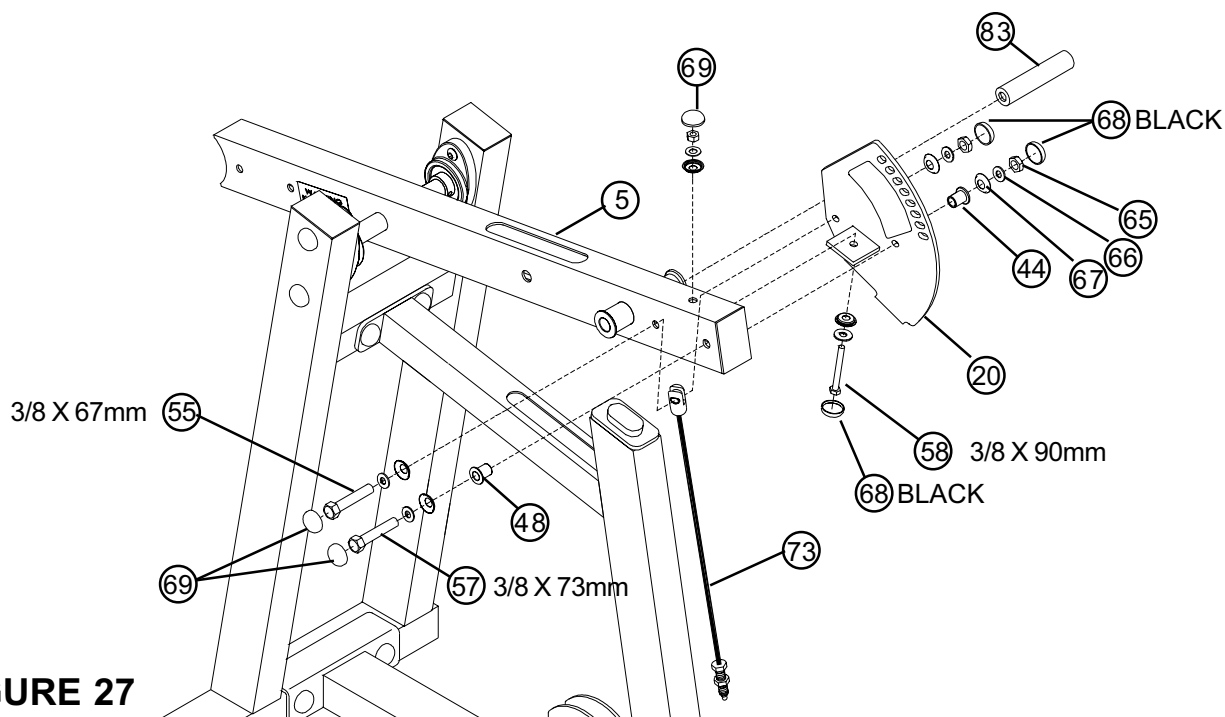

FIGURE 27
- **SECURELY** assemble the MULTI PRESS ADJUST PLATE (20) to the PIVOT ARM (5) using three RH CAPS (69), three BLACK RH CAPS (68), one 3/8 X 67mm BOLT (55), one 3/8 X 73mm BOLT (57), one 3/8 X 90mm BOLT (58), six 3/8\" SAE WASHERS (66), six 3/8\" RH WASHERS (67), one 3/8 X 3/4\" FLANGE SPACER (48), one 3/8 X 1\" FLANGE SPACER (44), one MULTI PRESS CABLE (73) and three 3/8\" LOW HEIGHT LOCK NUTS (65) as shown in FIGURE 27. **(NOTE: Assemble the MULTI PRESS CABLE to the second set of holes.)**
- Insert one 5-1/2\" TAPPED PIVOT SHAFT (83) into the PIVOT ARM (5).